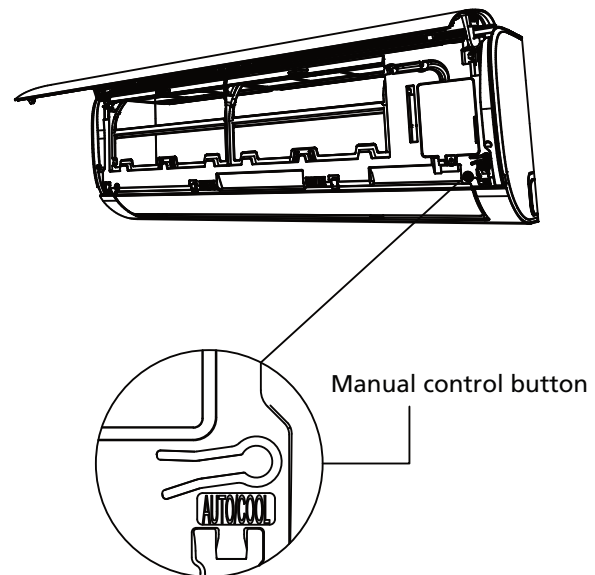

Fig. 8.1
2. The **MANUAL CONTROL** button is located on the right-hand side of the unit. Press it 2 times to select the COOL function. See **Fig. 8.1**.